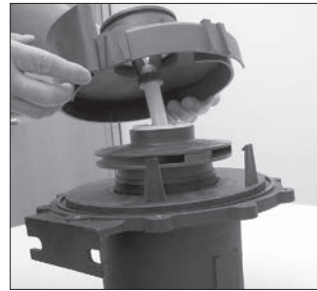

Figure 17
9. Pull the inner volute straight off. Be careful since the impeller shaft may come out with the inner volute. See figure 17.